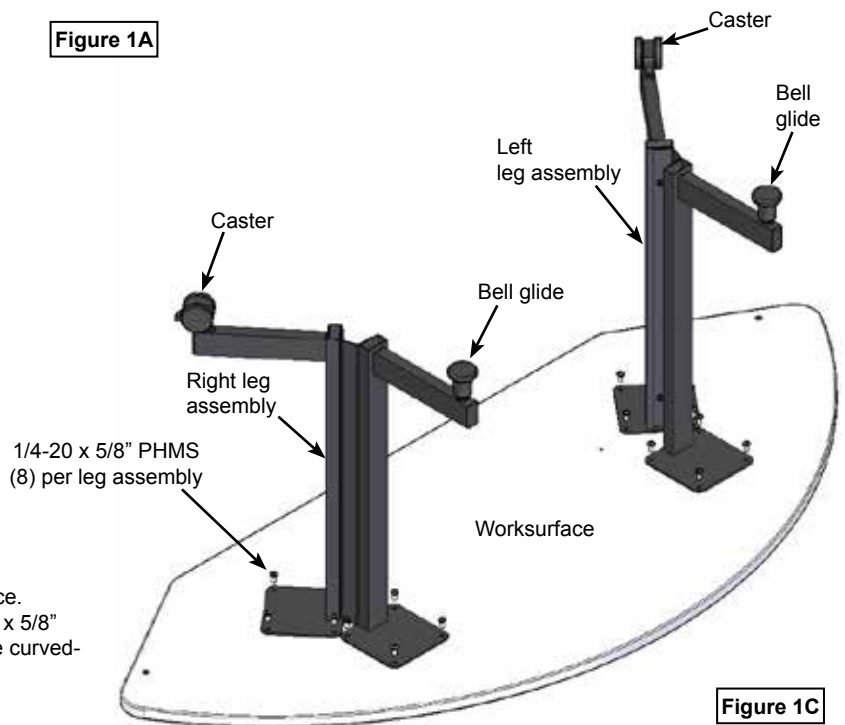

Figure 1C
2. Attach each leg assembly to the worksurface with (8) 1/4-20 x 5/8" PHM screws. **Figure 1C**. Note: Bell glides should be on the curved-side of the worksurface.